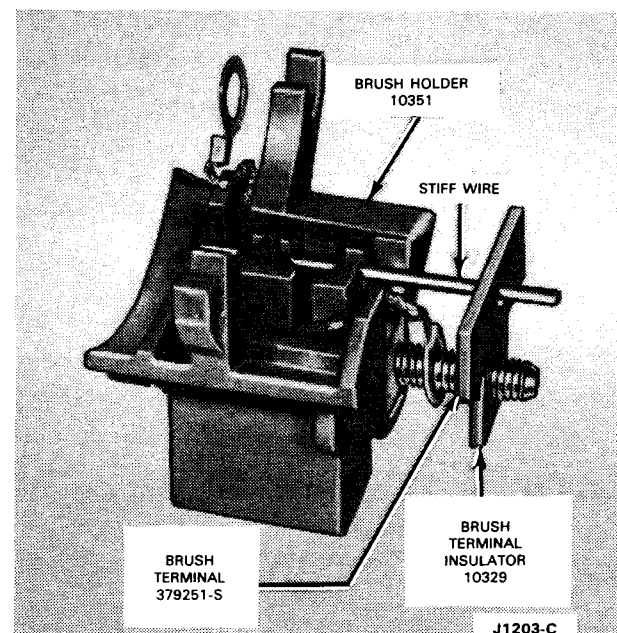

FIG. 19 Brush Holder Assembly
7. Place the brush springs, brushes, brush terminal, and terminal insulator in the brush holder and hold the brushes in position by inserting a piece of stiff wire in the brush holder as shown in Fig. 19.